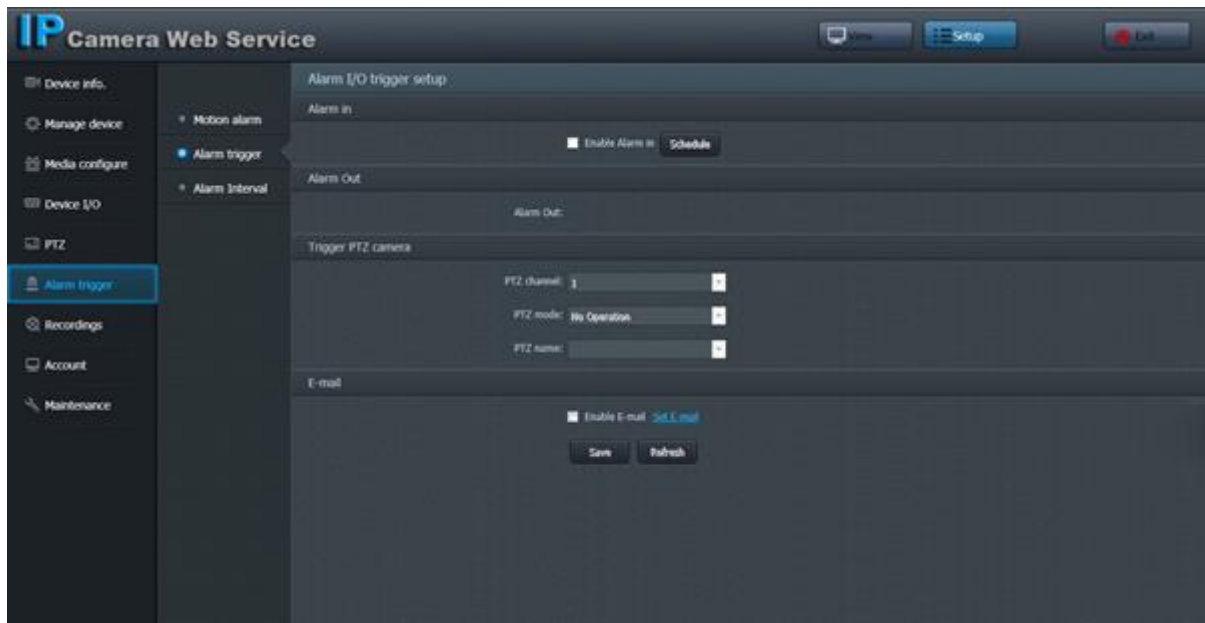

Figure 2-4 Alarm
- 3) Open the Web, go to the Figure 2-4. Please set the alarm input + port for the first channel of the I/O cable alarm out port +. The alarm input + is for the I/O cable.